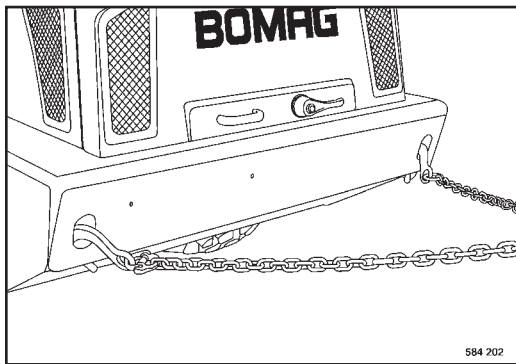

Fig. 69
- Attach chains (Fig. 69) or towing ropes to the lifting hooks.